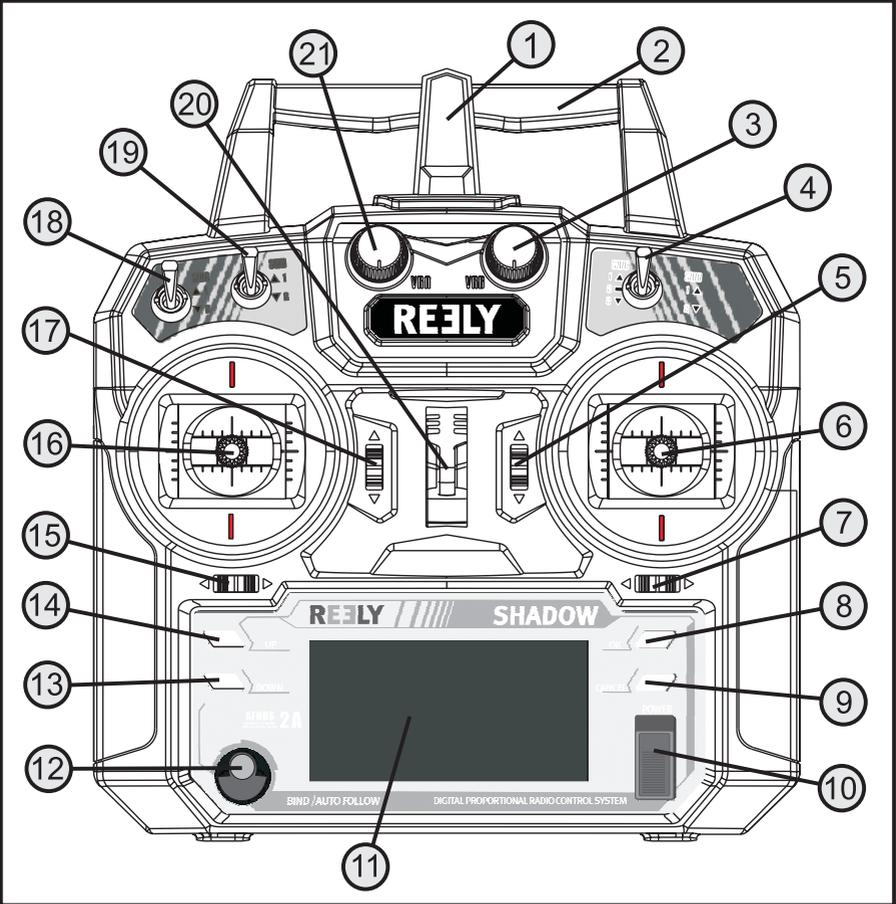

Figure 7
**Front (figure 7):**
After you have inserted four new batteries, check the position at the toggle switches. All switches must be in the front/top position. The two control sticks are held in the middle position by spring power. Now switch on the transmitter using the on/off switch (see fig. 7, item 10).
➔ If one of the three toggle switches (see figure 7, item 4, 18 and 19) is not in the front position, warning sounds will be emitted when activating and the corresponding note is displayed (see figure 11).